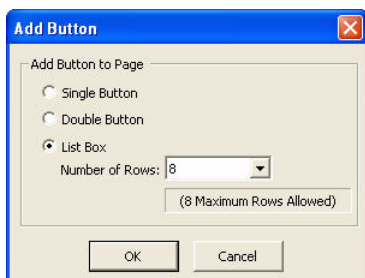

FIG. 34 Add Button dialog
5. Click **Add** to launch the *Add Button* dialog (FIG. 34).